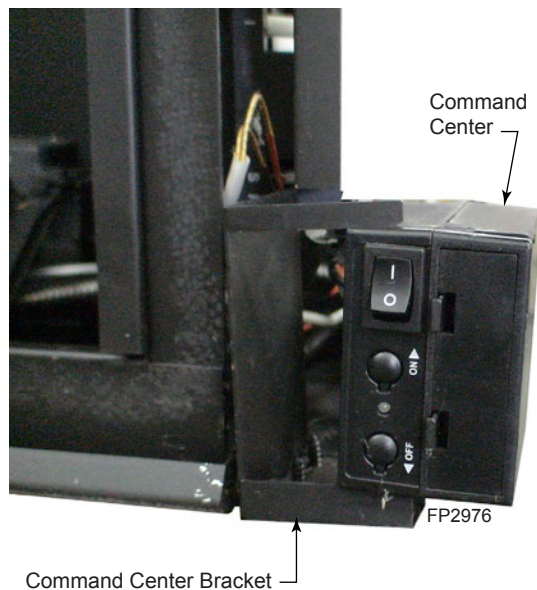

Figure 6
1. Remove command center from bracket by sliding out to the right. *Figure 6*